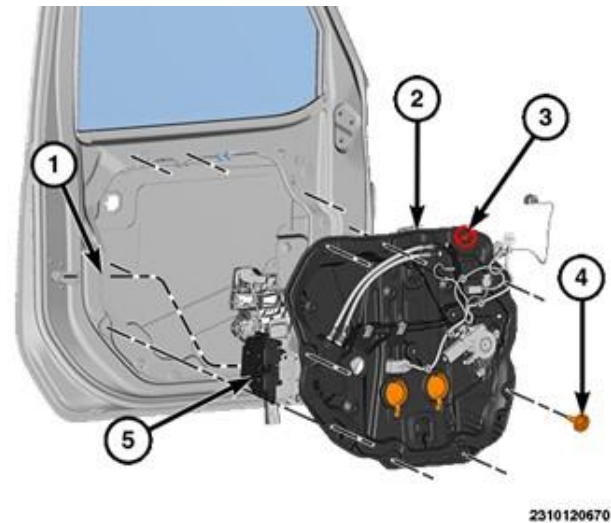

Figure 17 – Carrier Plate Assembly
31. Remove the carrier plate assembly bolts (4) and separate the carrier plate assembly (2) from the door (Figure 17).
- (1) - Door Interior
- (2) - Carrier Plate Assembly
- (3) - This bolt hole is a locator used during the trim panel removal and installation. (Do Not Add Bolt.)
- (4) - Carrier Plate Assembly Bolts
- (5) - Latch Assembly
32. Move the carrier plate assembly (2) forward in the door and remove the latch assembly (5) from the door interior then remove the carrier plate (Figure 17).
40. Insert the latch assembly (5) into the door first then move the carrier plate assembly (2) rearward to align the carrier plate to the door (Figure 17).
41. Install the carrier plate assembly bolts (4) and tighten to 7 N·m (62 in. lbs.). Do not add a bolt to hole (3). This bolt hole is a locator used during the trim panel removal and installation (Figure 17).